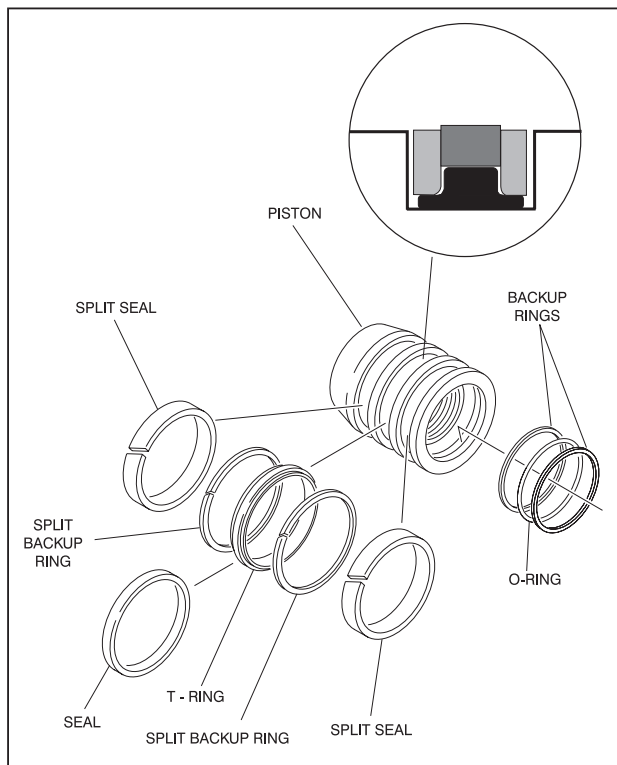

Figure 5-10. Piston Seal Kit Installation
NOTE: The backup rings for the solid seal have a radius on one side. This side faces the solid seal. (See magnified insert in Figure 5-10.) The split of seals and backup rings are to be positioned so as not to be in alignment with each other.
16. Place new guide locks and seals in the applicable outside diameter grooves of the cylinder piston. (See Figure 5-10.)